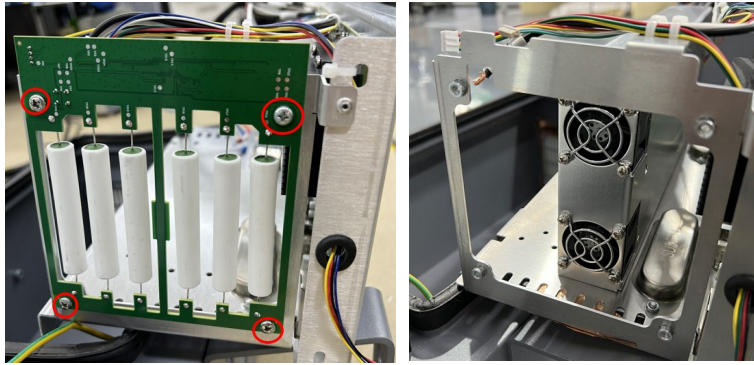

Figure 3-36 Remove the brake board
- Remove the 4 cross recessed pan head screws and remove the brake board that need to be replaced, as shown in Figure 3-36: